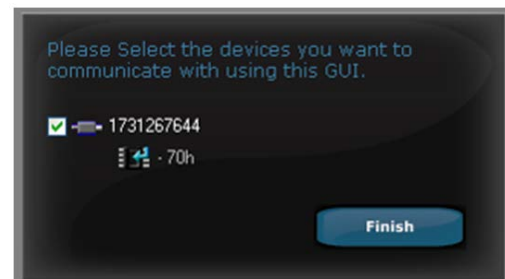

Figure 8. Getting Started—Device Detected on the Board
6. Double-click the **ADP1050-51.exe** file. The GUI software should report that the ADP1050 has been detected on the board, as shown in Figure 8.